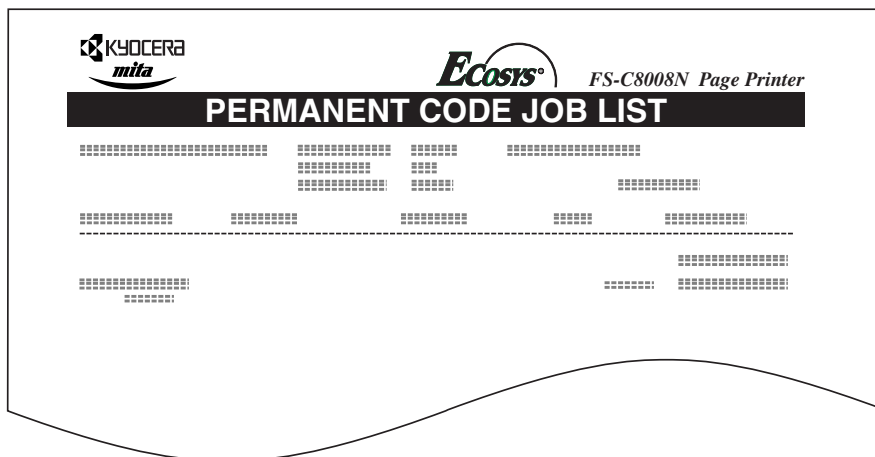

Figure 3-5
- 6 Press the **ENTER** key again. The printer prints a Code Job list as shown in Figure 3-5 below.